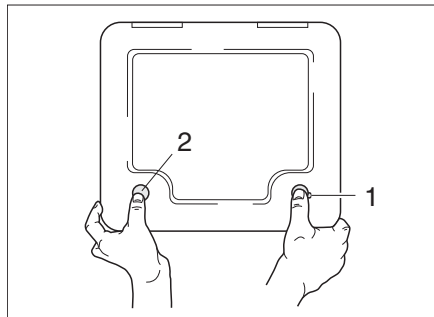

Fig. 5 External flap Thetford cassette
- Insert the key into the locking cylinder of the push-button lock (Fig. 5,1) and turn a quarter turn.
- Press the push-button lock (Fig. 5,1) and the magnetic push button (Fig. 5,2) simultaneously with your thumbs and open the external flap.
The external flap (Fig. 5) is held by the magnetic push button (Fig. 5,2) against the exterior wall of the motorhome.
- Insert the key into the locking cylinder (Fig. 5,1) and turn a quarter turn.